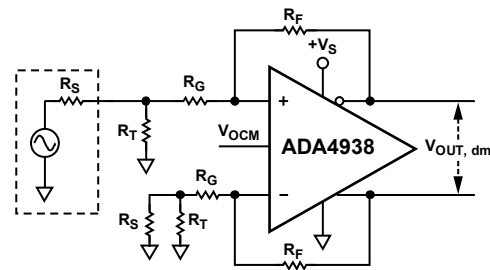

Figure 60. ADA4938-1/ADA4938-2 Configured for Unbalanced (Single-Ended) Input
For an unbalanced, single-ended input signal (see Figure 60), the input impedance is
**Table 11. Single-Ended Ground-Referenced Input, DC-Coupled,  $R_S = 50\ \Omega$ ; See Figure 60**